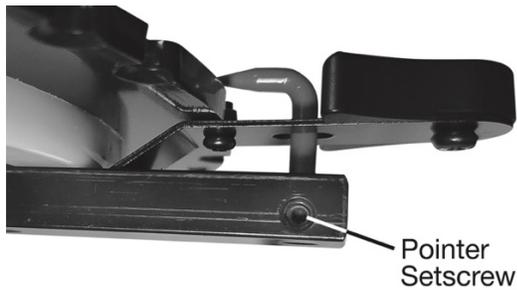

Figure 35B
4. After squaring, if the red pointer (C) is not pointing at 0°, loosen the pointer setscrew (see Figure 35B), rotate the pointer to 0°, and retighten the pointer setscrew.